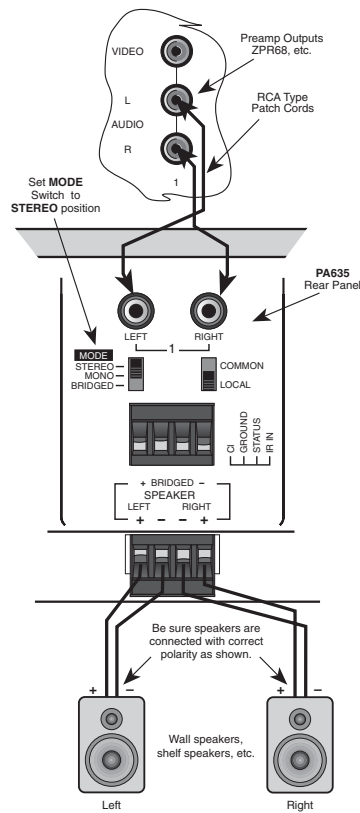

Figure 6 – Stereo Mode Connections
1. Using good quality RCA-type patch cables, connect the L and R OUTPUT jacks of the driving preamp to the LEFT and RIGHT input jacks on the PA635. Do this for each amplifier pair. Refer to Fig. 6.
5. Be sure to observe correct polarity by connecting the "+" and "-" terminal from each channel on the PA635 to the corresponding "+" and "-" terminals on each speaker. This will ensure correct "phasing". See Fig. 6 and Speaker Phasing, following. Since the connectors are removable, you may unplug them for ease of lead assembly.
- a) If the "+" (positive) and "-" (negative) terminals on your speakers are correctly marked, and visible, and you have wired the system as shown in Figs. 6 and 7, then the system will be "in phase". No further action is required. Most manufacturers identify the positive terminal with a red binding post, a "+" sign, or a red dot.
10. When connecting speakers for each room, be sure to observe correct polarities as shown in Fig. 6.